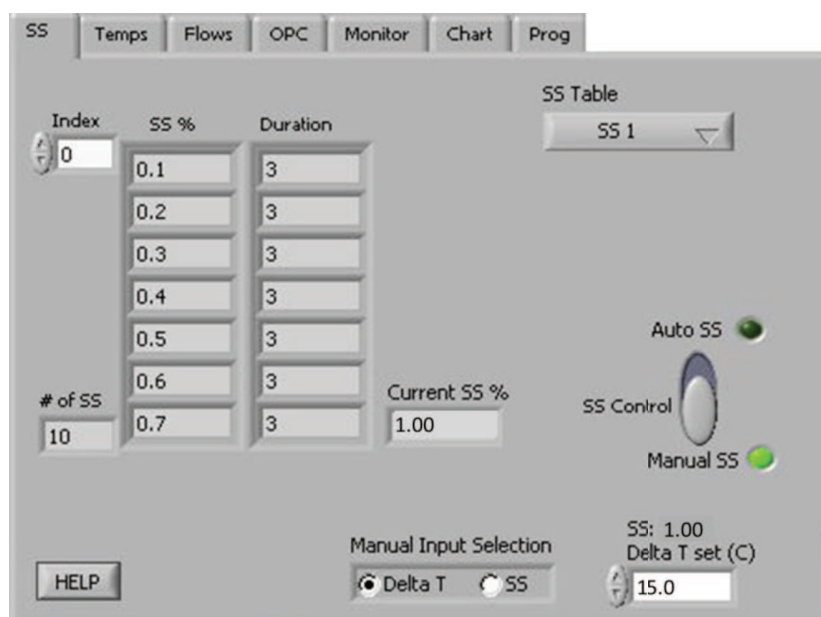

Figure 29: Supersaturation (SS) Settings Tab Display in Manual SS Mode
Note: **Current SS#** and **Seconds until SS change** are not visible when **Manual SS** mode is turned on. See Figure 29.
Input Selection radio button (Figure 29, bottom middle) specifies whether the user will enter Delta T Set (C) or enter the supersaturation directly. If the manual input selection is Delta T Set (C), an **SS** indicator will appear above the **Delta T set (C)** control (bottom right), which enables the user to quickly see what SS% the currently selected Delta T Set (C) is equal to. The default value for Delta T Set (C) is the last setting the program was previously running when **Auto SS** mode is switched off. Note that while the SS Table remains visible during **Manual SS** mode, the program is not using it.